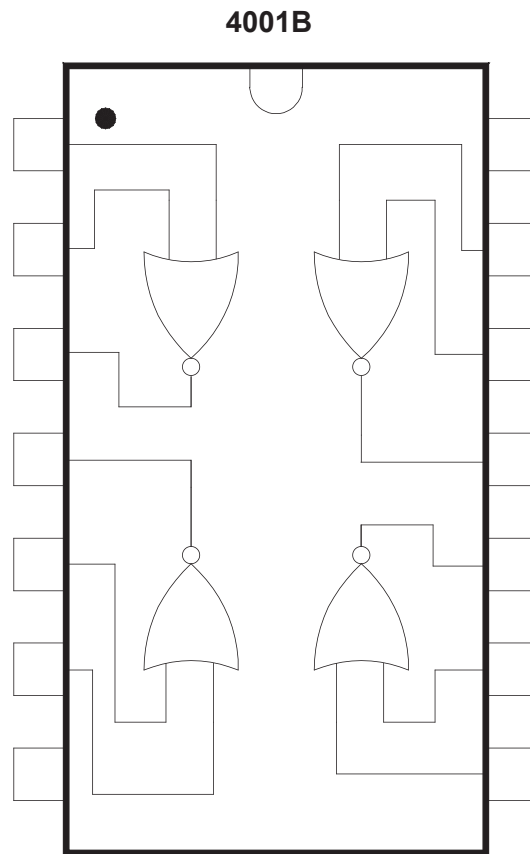

Fig. 12.3
- (b) Fig. 12.3 shows the outline of a CMOS 4001 quad NOR gate IC, with the internal connections to the logic gates shown.
- (i) Add pin numbers to the IC outline in Fig. 12.3. [2]
- (ii) Add the positive and 0V connections to the IC outline in Fig. 12.3. [1]